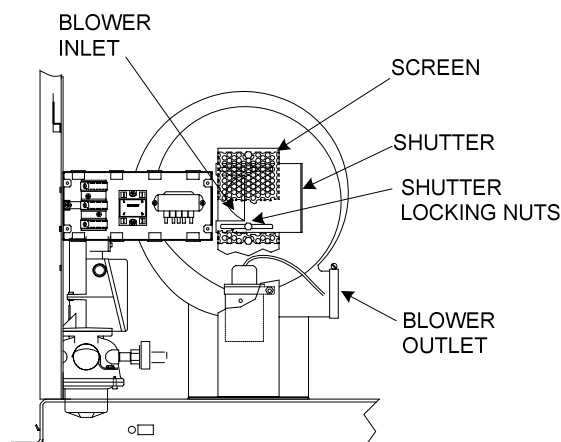

Figure 4.4
20. If the measured oxygen reading is below the oxygen range in Table 3, loosen the two bolts that secure the inlet air shutter to the unit using a 7/16" wrench (see Fig. 4.4). Open the shutter 1/4" to 1/2" to increase the oxygen level, then tighten the nuts.